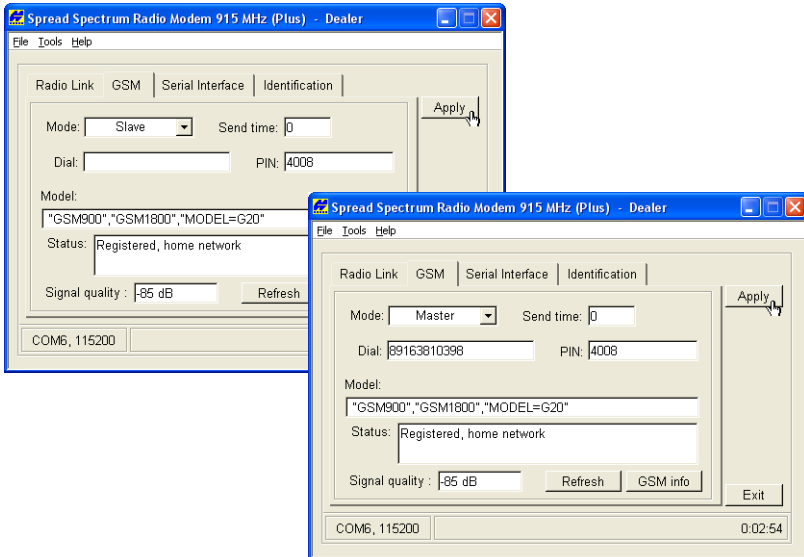

Figure 3-4. Select GSM Parameters for the Base and Rover
3. On the *GSM* tab, set the following parameters (Table 3-3 on page 3-8) and click **Apply** (Figure 3-4 on page 3-8).